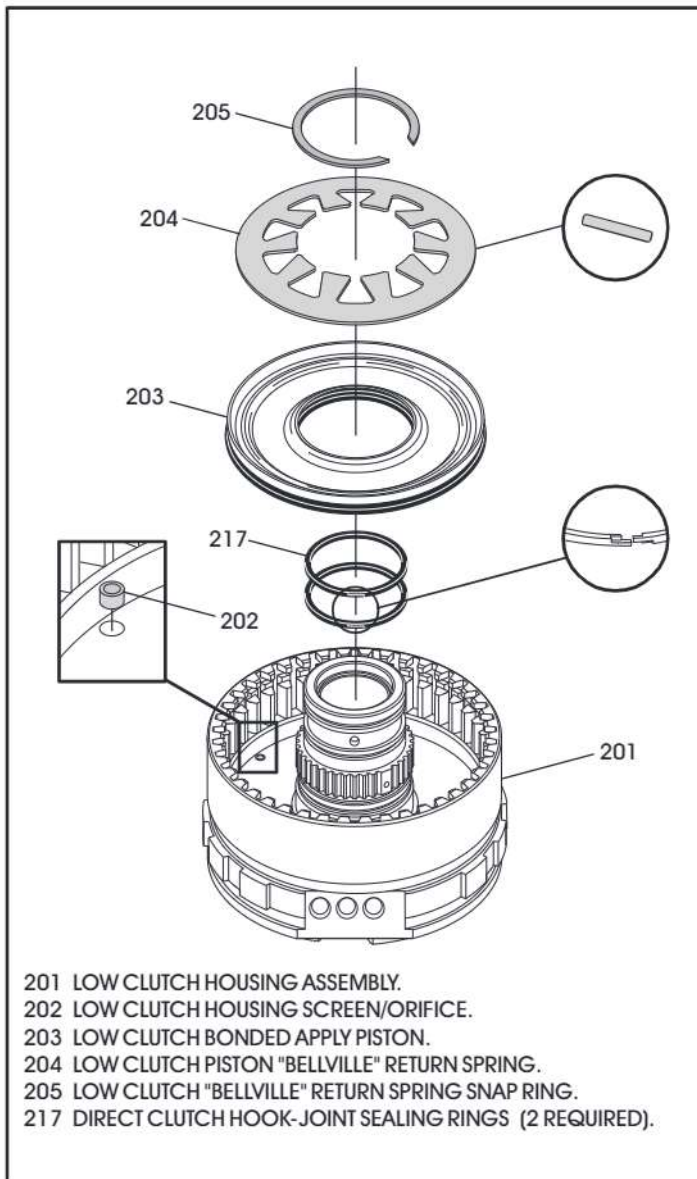

Figure 146
4. Install new direct clutch sealing rings into their grooves in the low clutch housing, as shown in Figure 146.
5. Ensure screen/orifice is in place and lube seal surfaces of low clutch housing and the bonded low clutch apply piston (See Figure 146).
6. Install the bonded low clutch apply piston, as shown in Figure 146.
7. Install the low clutch piston return spring in the direction shown in Figure 146.
8. Compress the return spring and install the snap ring, as shown in Figure 146, and ensure it is fully seated.